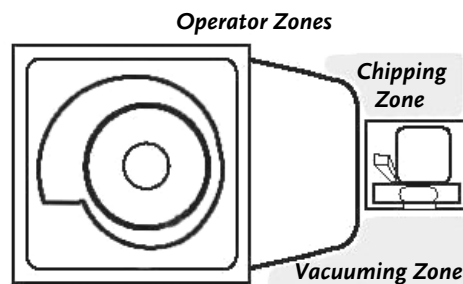

Figure 20
**NOTE:** *Always be sure to stand inside the **Operator Zones** to run the DR LEAF and LAWN VACUUM as a Chipper or Hand Held Vacuum. These are the areas on either side of your machine (**Figure 20**).*
- ALWAYS OPERATE THE CHIPPER FROM THE "CHIPPING ZONE" (SEE *FIGURE 20* ON PAGE 27).
- BEFORE PERFORMING ANY MAINTENANCE PROCEDURE, STOP THE ENGINE, WAIT FIVE (5) MINUTES FOR PARTS TO COOL AND DISCONNECT THE SPARK PLUG WIRE.